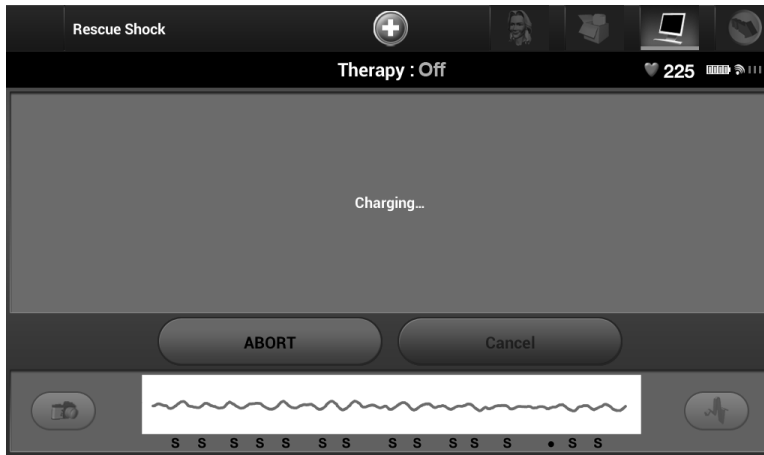

Figure 50: *Abort Rescue Shock*
2. Select the Shock button to begin charging the SQ-RX device for a Rescue shock. A red background screen with the word "Charging" will appear (Figure 50). Selecting the Abort button will prevent delivery of a rescue shock and will return to the Device Settings screen.